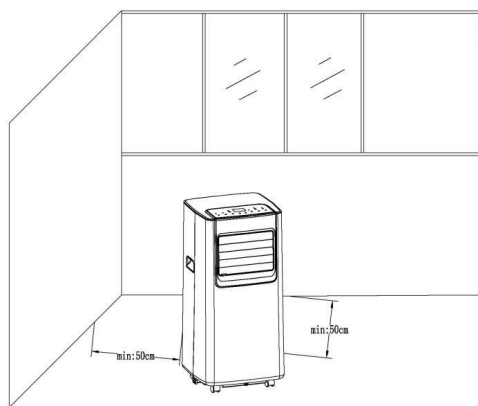

Fig. 2
- 1) Move the machine with installed exhaust pipe to the window. The distance between the body and walls or other objects should be least 50 cm (as shown in Fig.2)